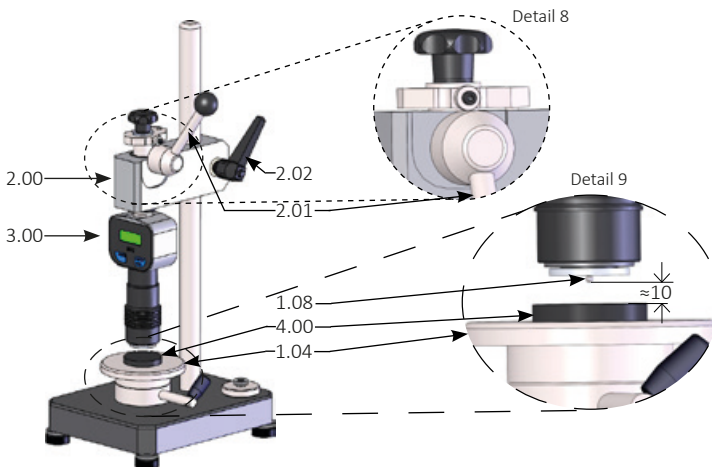

Fig. 8 Hardness test Shore 00, 000, 000 S
- › Slowly move down the hardness tester (3.00) until the tip of its indenter is approx. 10 mm above the surface of the specimen (see Detail 9, Fig. 8).
- › Gently swing the loading lever (2.01) down until the hardness tester makes a full contact with the specimen and let go of your hand (see Detail 8, Fig. 8).